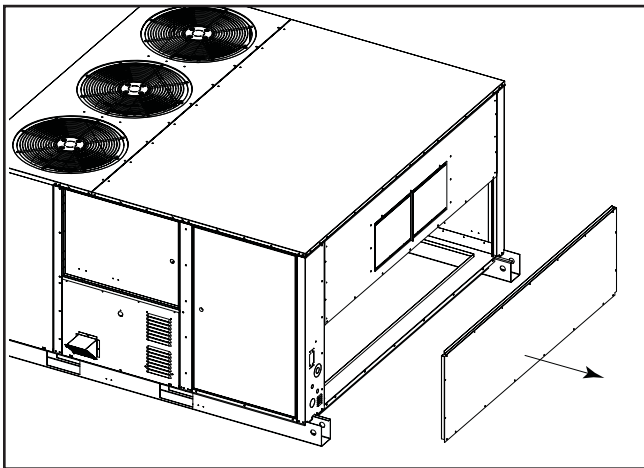

Figure 1.
2. Remove all screws securing lower factory close off panel. Discard original panel and set screws aside for later use. See Figure 1.